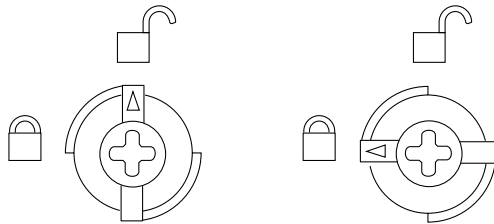

FIGURE E-2 Unlocking and Locking Quarter-Turn Access Slots
2. Release the auxiliary fan tray from the system chassis by inserting a Phillips #1 screwdriver into each quarter-turn access slot and turning to the unlocked position (FIGURE E-2).
4. Lock the auxiliary fan tray to the system chassis by inserting a Phillips #1 screwdriver into each quarter-turn access slot and then turning to the locked position (FIGURE E-2).